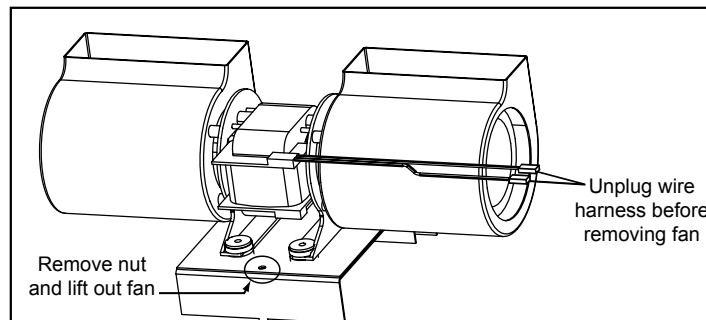

Figure 30.2 Fan Motor
2. Lift fan from locating pins and remove. Repeat for second fan if necessary. See Figure 30.2.